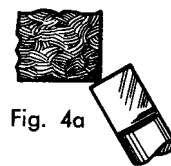

Fig. 4a
7. During grinding slowly return stop screw G to advance the index head bracket past the wheel; at the same time continuously rotate the index head spindle back and forth between the stops, the rotation being through 180°. This ensures uniform stock removal (Figs. 4a, b, c) and will protect the cutter from overheating.